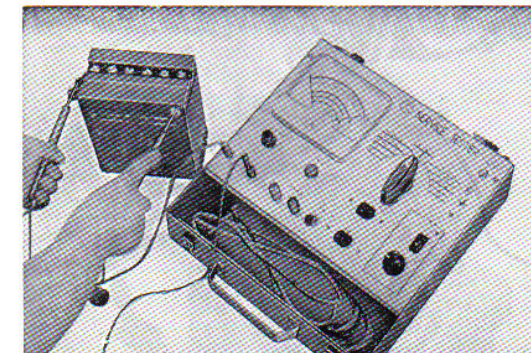

Fig. 5.101 DC voltage measuring
- b. Attach terminal X wire lead to the item being measured and read the pointer swing on the blue scale. (It can be measured up to DC 30V.) (Fig. 5.101)